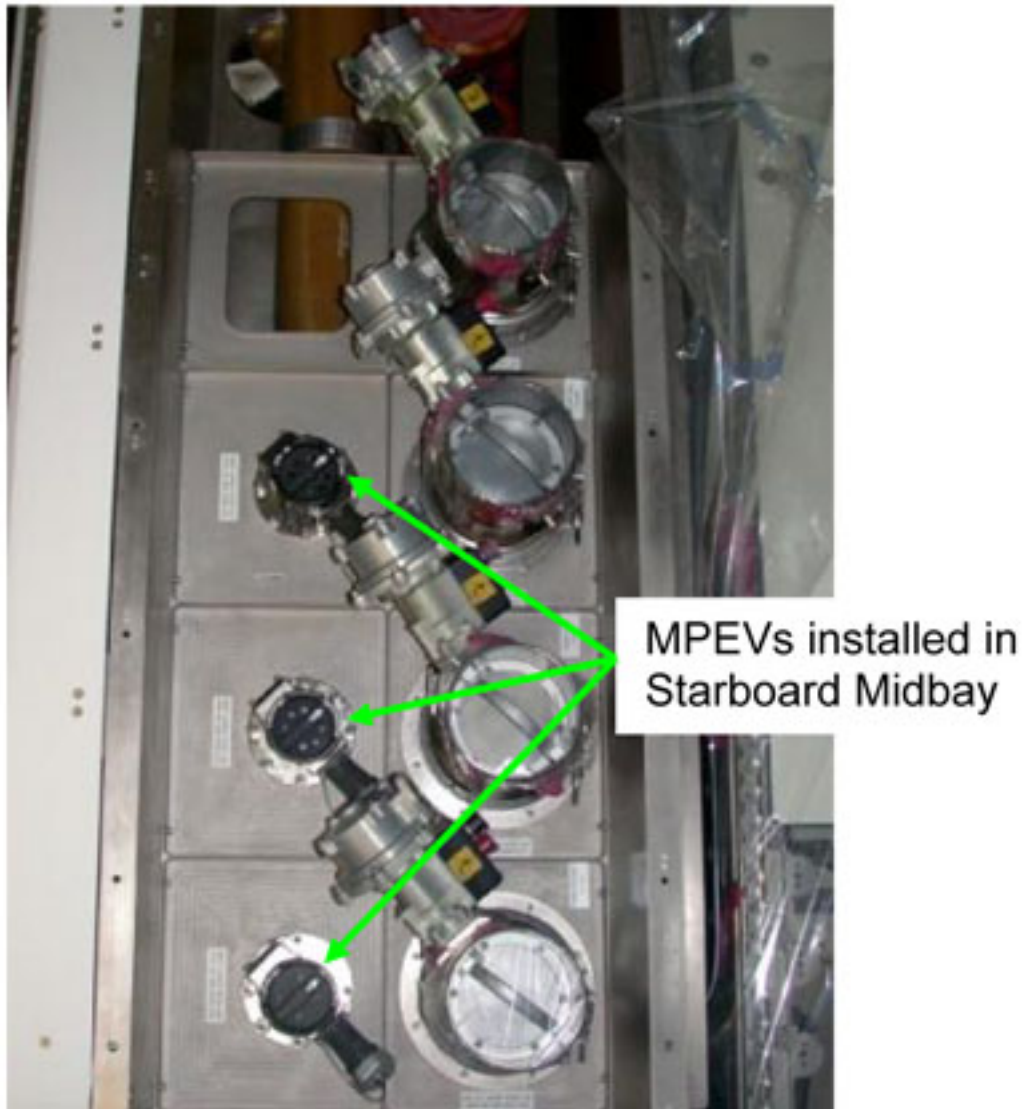

Figure 3. Starboard Midbay with closeout removed
- 2.2 Remove MPEV from stowed location at NOD2S3-01, fasteners (six) (Ratchet, 1/4" Drive; 5/32" Hex Head Driver). Refer to Figure 3.